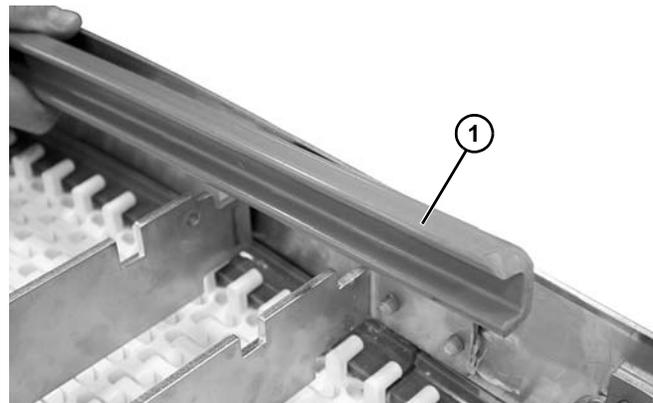

Figure 39
2. Remove the upper wear strip (**Figure 39, item 1**) from the frame.